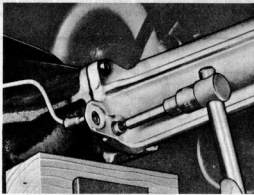

Fig. 7.3. Removing the extension housing bolts (Sec. 2)
- 20 Lower the central joint support beam just a little and then unbolt the tubular extension (torque tube) from the flange on the final drive housing using an M8 size tri-square socket bit (see Fig. 7.3).